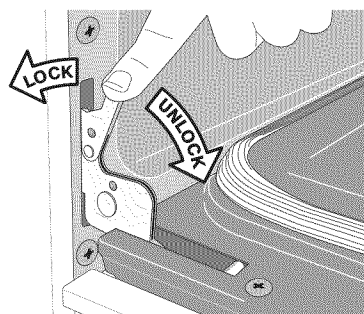

Figure 59: Hinge lock/unlock positions
2. Pull the door hinge locks on both left and right door hinges down from the oven frame completely towards the oven door (Figure 59). A tool such as a small flat-blade screwdriver may be required.
4. Push the door hinge locks up towards and into the oven frame on both left and right oven door hinges (Figure 59) to the locked position; then, close the oven door.